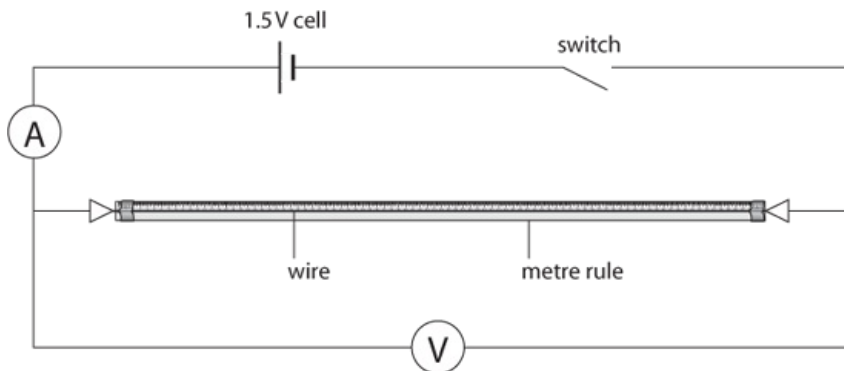

Figure 1.6: Circuit diagram for Part 2.
- 3 Connect the circuit as shown in Figure 1.6.